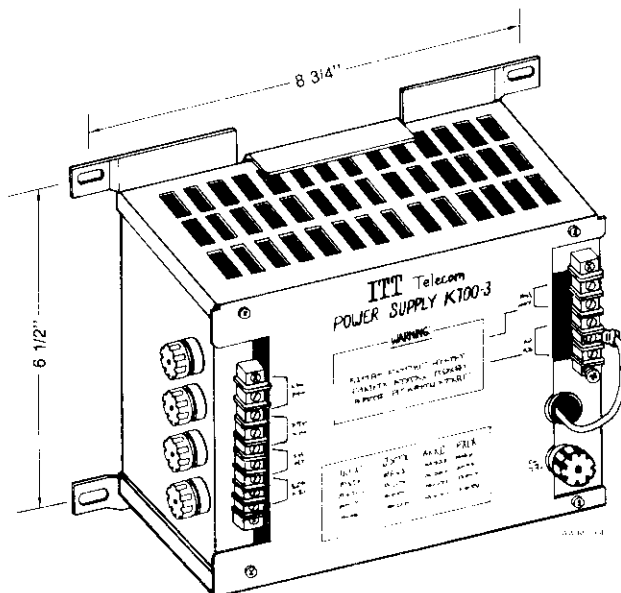

Figure 1: K100-3 Power Supply
2.01 The K100-3 Power Supply is shown in Figure 1. It is designed for use in 1A2 key service units such as the 501A KSU and the 512A KSU. It replaces the 180125-101 and 180125-102 power supplies used in the 501A KSU, and the 180715-101 power supply used in the 512A KSU.
2.02 The K100-3 Power Supply is designed to mount on the backboard of a floor-mounting 501A KSU or on the swing-out gate of the 512A KSU. Brackets for mounting are provided on the rear of the unit. The unit measures approximately 7 inches high, by 9-1/2 inches wide, by 5 inches deep. Mounting hole centers are shown in Figure 1.